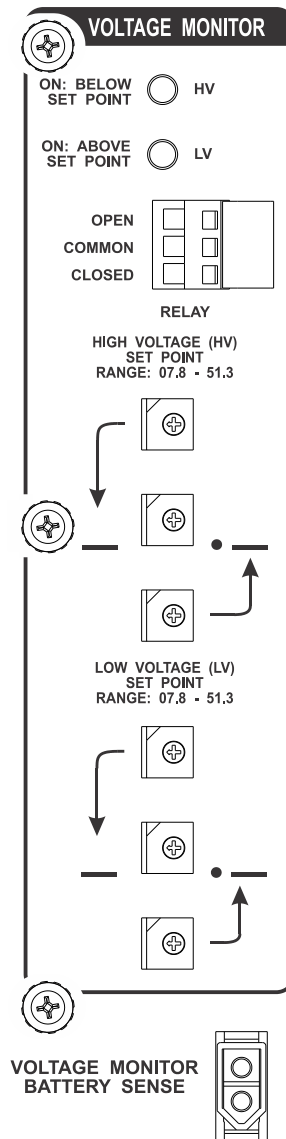

Figure 10.1
The ELC-12/40-CVM-D battery charger includes an integrated voltage monitor/alarm that monitors the DC voltage. Unless the optional VOLTAGE MONITOR BATTERY SENSE input available on the front of the charger is remotely wired to the terminals of the battery, the DC voltage is monitored internally at the charger output. If the DC voltage rises above the HIGH VOLTAGE (HV) SET POINT setting, the green BELOW HV SET POINT LED indicator is turned off and the Form C, dry contact alarm relay is actuated. If the DC voltage falls below the LOW VOLTAGE (LV) SET POINT setting, the green ABOVE LV SET POINT LED indicator is turned off and the Form C, dry contact alarm relay is actuated. The voltage set point switches, LEDs, relay terminals, and optional battery sense input are accessible on the front of the charger (see Figure 10.1).
The HIGH VOLTAGE (HV) SET POINT setting is adjustable with three (3) rotary switches and the LOW VOLTAGE (LV) SET POINT setting is adjustable with three (3) rotary switches, all of which are available on the front of the charger (see Figure 10.1). For both settings, the top switch sets the tens of volts, the middle switch sets the volts, and the
The voltage monitor/alarm includes an optional VOLTAGE MONITOR BATTERY SENSE input available on the front of the charger (see Figure 10.1). If the VOLTAGE MONITOR BATTERY SENSE input is left disconnected, the DC voltage is monitored internally at the charger output. The VOLTAGE MONITOR BATTERY SENSE input can be remotely wired to the terminals of the battery to monitor the voltage at this point. The voltage monitor/alarm detects when the VOLTAGE MONITOR BATTERY SENSE input is connected to the battery terminals and automatically monitors this DC voltage instead of the voltage at the charger output. Please refer to the wiring diagram in Section 15 for the VOLTAGE MONITOR BATTERY SENSE input connector detail.